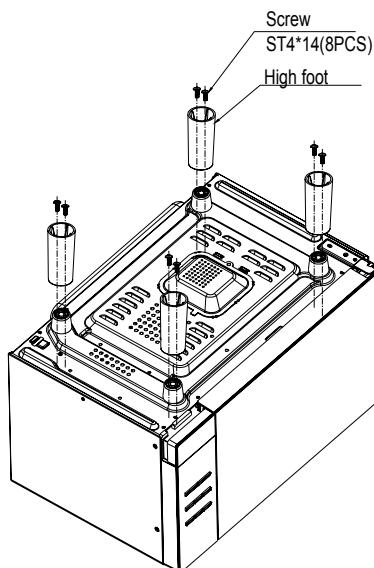

Fig 1
② INSTALLATION:
a) Install the high feet with self-lock screws, as shown in Fig.1